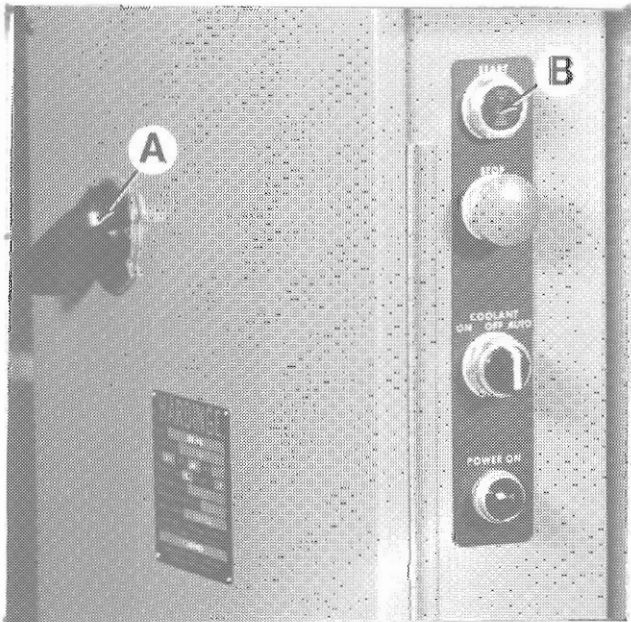
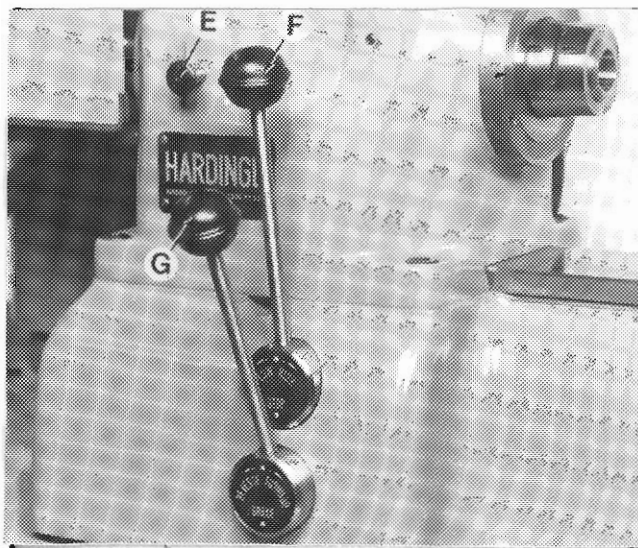

Figure 9.1 - External Power Case
Figure 9.3 - Spindle Lock Pin and Levers
Turn disconnect switch "A", Figure 9.1, "OFF" and loosen captive screws in corners of power case. Open power case door.
TO CHECK SPINDLE ROTATION, apply a collet to machine spindle to anchor collet closer. A 5CE collet is shipped with machine. Close switch case door and turn disconnect switch to "ON". Pull out spindle lock pin "E", Figure 9.3, and push "Start" pushbutton "B", Figure 9.1. Place lever "F", Figure 9.3, in "Low" position. Spindle should rotate counterclockwise when viewed from turret end of machine. If spindle does not turn in correct direction, DISCONNECT EXTERNAL POWER SOURCE. Turn disconnect switch to "OFF". Open power case door and interchange any two leads at line side of disconnect switch.
Control lever "F", Figure 9.3, is connected to a cam switch on the electric control panel. Speeds in "Low" and "High" ranges are obtained through the use of a 2:1 ratio motor.
Lever "G" controls the direction of spindle rotation. To start and stop spindle, pull out lock pin "E", Figure 9.3, and press "Start" pushbutton "B", Figure 9.1. Move control lever "G" to "Forward" or "Reverse" position and place lever "F" in "Low" or "High" position. Brake will automatically be applied when lever "G" is placed in center position.
To permit turning of spindle by hand, place lever "F", Figure 9.3, in "Stop" position and lever "G" in either "Forward" or "Reverse" position. Pull spindle lock pin "E" out. Push "Start" button "B", Figure 9.1.
EXAMPLE: With pulley No. 6 mounted on motor shaft, and pulley No. 5 mounted on countershaft, speeds of 2000 and 4000 RPM are available, depending on setting of control lever "F", Figure 9.3.
1. Turn disconnect switch "A", Figure 9.1, "OFF".